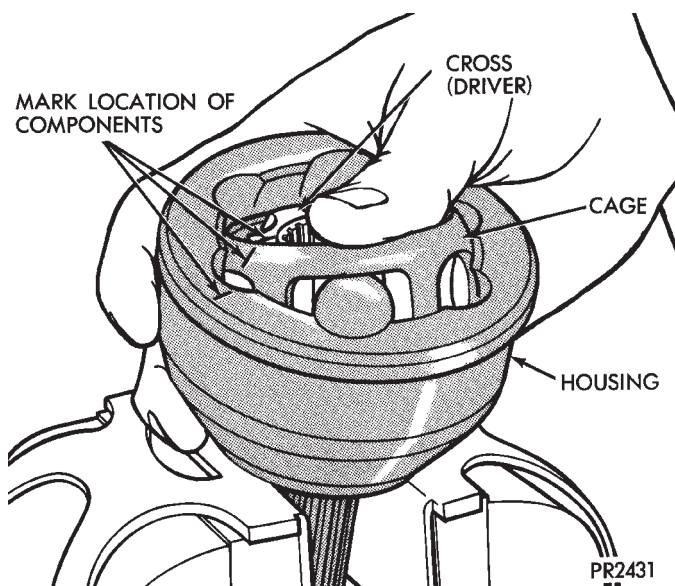

Fig. 5 Rotate Cage & Cross to Remove Balls
(8) Hold joint vertically in vise by clamping on splined shaft, using soft jaws to prevent damage.
(9) Wipe off surplus grease and mark relative position of inner cross, cage and housing with a dab of paint (Fig. 5).
(10) Press down on one side of inner race to tilt cage and remove ball from opposite side (Figs. 5 and 6). If joint is tight, use a hammer and brass drift to tap inner race. **Do not hit the cage.** Repeat this step until **all 6** balls are removed. A screwdriver may be used to pry balls loose.